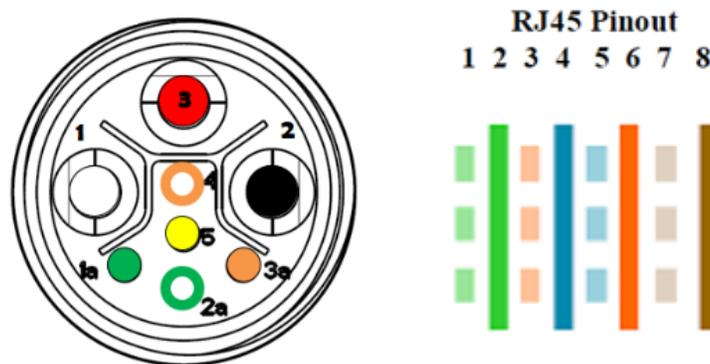

Figure 5. Power cable: RJ45 connection details
2. Connect the RJ45 wiring block to the power cable using a straight-through connection. Reference Figure 5 and Table 5 on page 12 for the power and RJ45 connector pinouts.